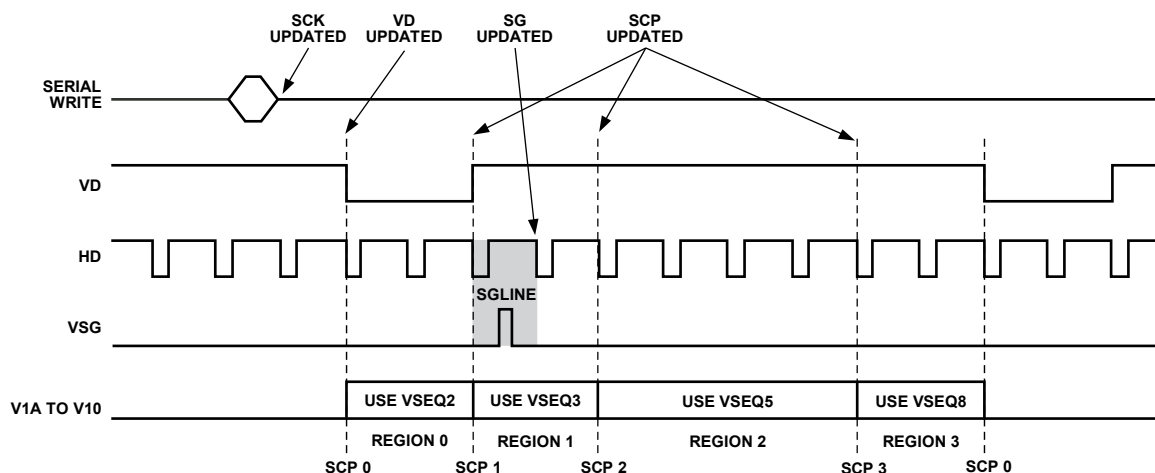

Figure 88. Register Update Locations (See Table 45 for Definitions)
- SCP Updated**—All V-pattern and V-sequence registers are updated at the next SCP where they are used. For example, in Figure 88, this field has selected Region 1 to use V-Sequence 3 for the vertical outputs; therefore, a write to a V-Sequence 3 or V-pattern group register, which is referenced by V-Sequence 3, is updated at SCP 1. If there are multiple writes to the same register, only the last one before SCP1 is updated. Likewise, a register write to a V-Sequence 5 register is updated at SCP 2, and a register write to a V-Sequence 8 register is updated at SCP 3.